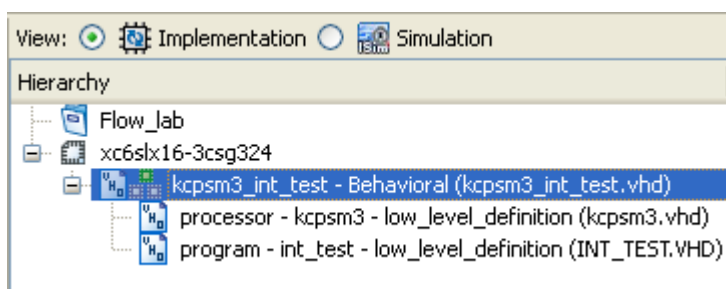

Figure 8. Hierarchical view of PicoBlaze design
- 3-1-7.** Click **Open** and then **OK** to add **INT_TEST** as a VHDL/Verilog Design File to the project (**Figure 8**).